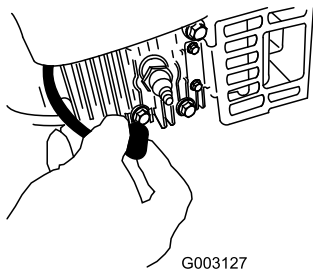

Figure 33
- Disconnect the spark plug wire from the spark plug and hook it onto the retaining post (Figure 33) before performing any maintenance procedure.